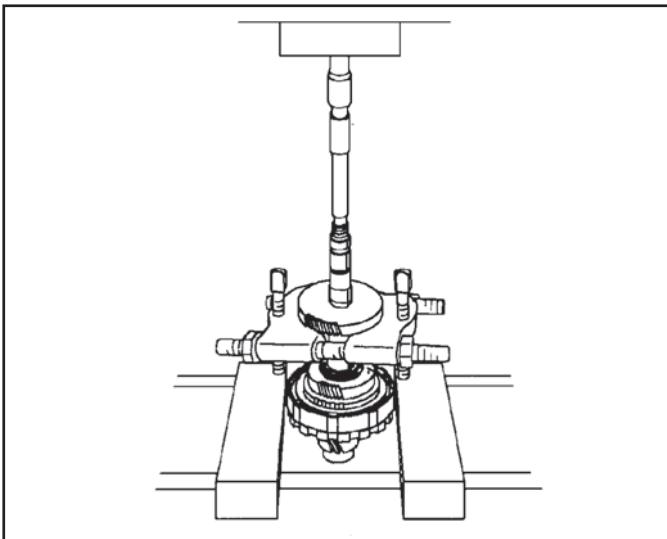
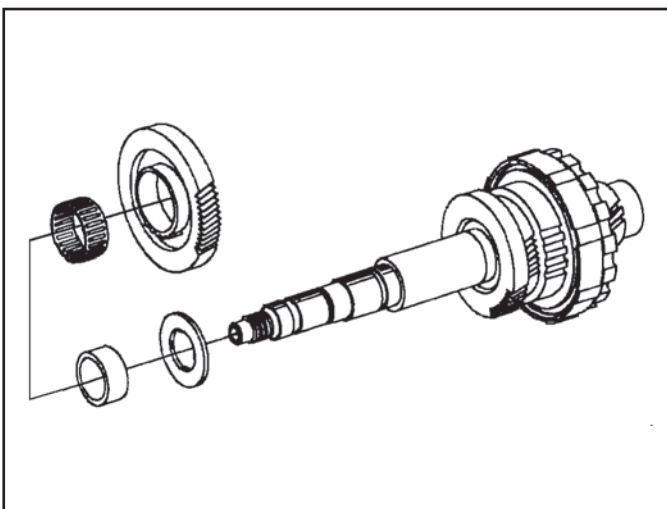

Figure 90
Figure 91
5. It may be necessary to utilize a press to remove the 2nd/reverse driven thrust washer and inner bearing race. Place a press support under the 2nd/reverse driven thrust washer as seen in figure 90. Carefully press the washer off the shaft while holding the drum assembly and shaft from dropping to the floor. As the shaft is being pressed, the thrust washer will push off the 2nd/reverse driven gear, the caged needle bearing and inner race as seen in figure 91.
6. With the 2nd/reverse gear removed, inspect the teeth and inner race for wear, chipping or pitting and replace if necessary (See Figure 91). **NOTE: 1992 and up models eliminated the caged needle bearing and closed the diameter of the gear.**